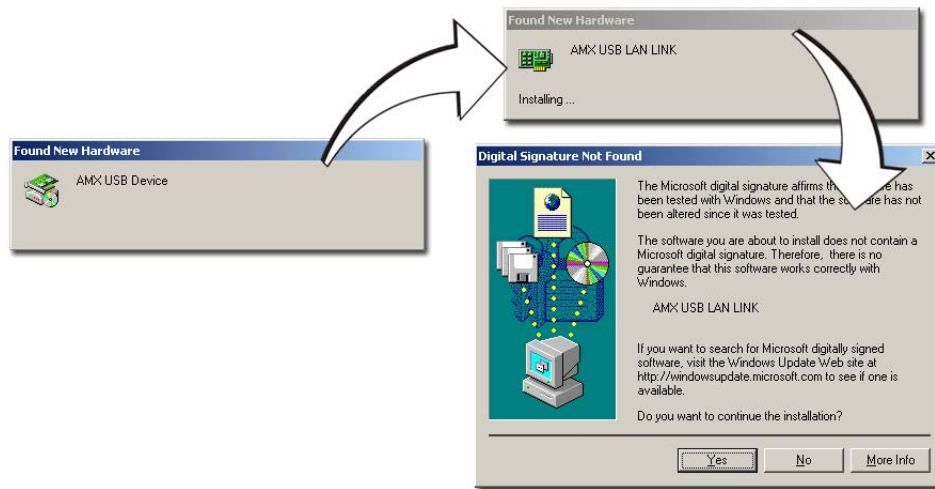

FIG. 34 USB driver installation popup window
8. **ONLY AFTER** the unit displays the first panel page, **THEN** insert the mini-USB connector into the Program Port on the panel. It may take a minute for the panel to detect the new connection and send a signal to the PC (indicated by a green System Connection icon). If this is your first time installing the USB driver, a USB driver installation popup window (FIG. 34) appears on the PC.